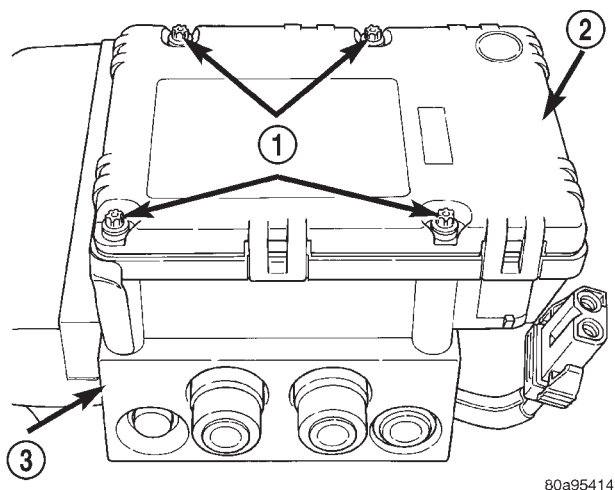

Fig. 51 CAB Attaching Bolts
(3) Remove the 4 bolts (Fig. 51) attaching the CAB to the HCU.
(2) Install the 4 bolts mounting the CAB (Fig. 51) to the HCU. Tighten the CAB mounting bolts to a torque of 2 N·m (17 in. lbs.).